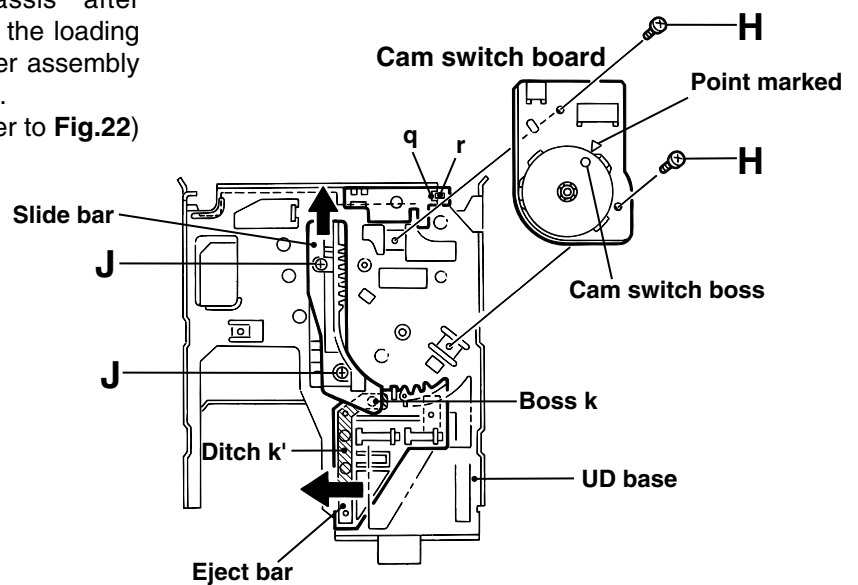

Fig.21
2. Reattach the slide bar to the loading mechanism chassis while fitting the boss marked **k** to the eject bar ditch **k'**. (Fig.21)
3. Slide the slide bar and the eject bar in the direction of the arrow in Fig.21 and reattach the cartridge holder assembly using the two screws **J**.
(Fig.21 and 22)